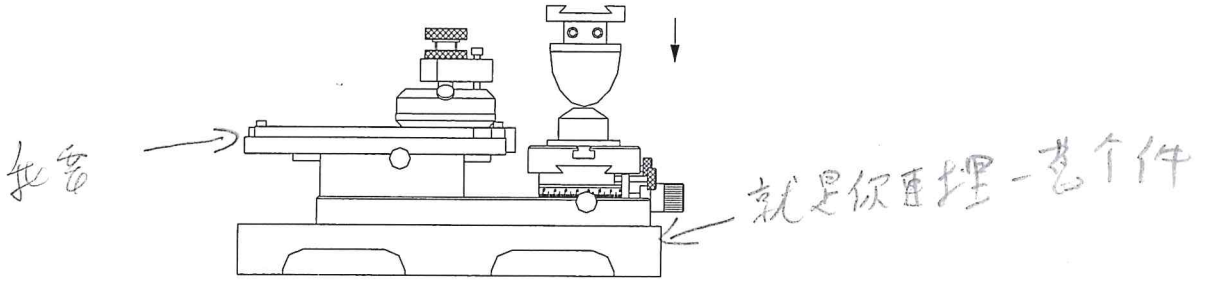

Figure 3
- 4.pad printing: to transfer ink (image) on pad to substrate as in Figure 3.
Figure 3: After inking, pad is thrust first horizontally over substrate by horizontal cylinder, then vertically onto the right surface of substrate by pad cylinder. Thus ink on pad (image) is transferred onto the surface of substrate.